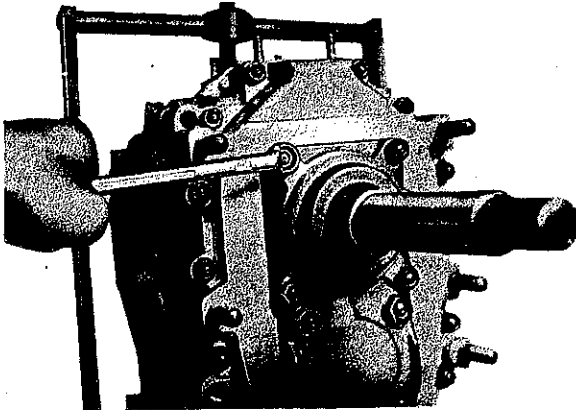

Fig. 7
6.1 Unscrew nuts (102) and remove throwout bearing flange (201) (Fig. 7). Push shaft sealing ring (203) out of flange.